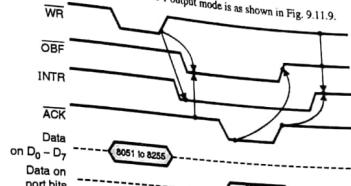

Fig. 9.11.9 : Timing diagram of mode 1 output mode
- The timing diagram of control signals in Mode 1 output mode is as shown in Fig. 9.11.9.